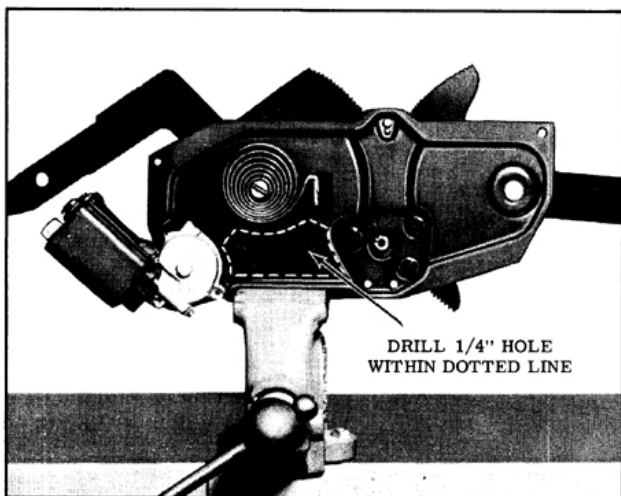

Fig. 16-213 Regulator Removal
2. Place regulator assembly in a vise as shown in Fig. 16-213.
and main sector within area indicated by dotted lines. (Fig. 16-213)